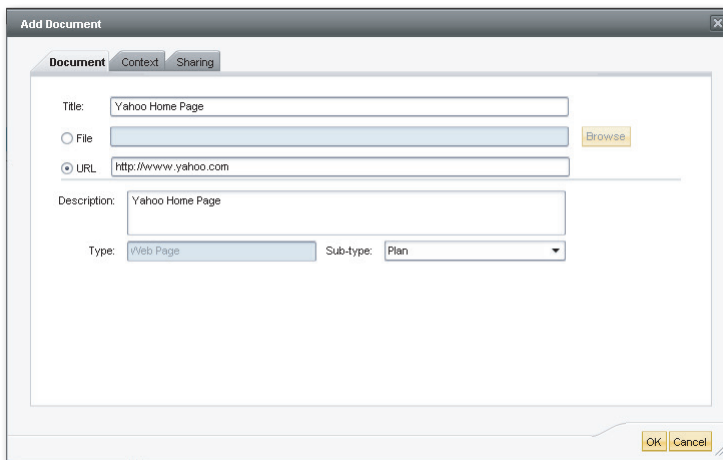

Figure 8.20 Creating a Web Page
1. Click on the ADD menu option in the DOCUMENTS view in the HOME workspace. This opens the ADD DOCUMENT dialog box in which you can add the document (Figure 8.20).